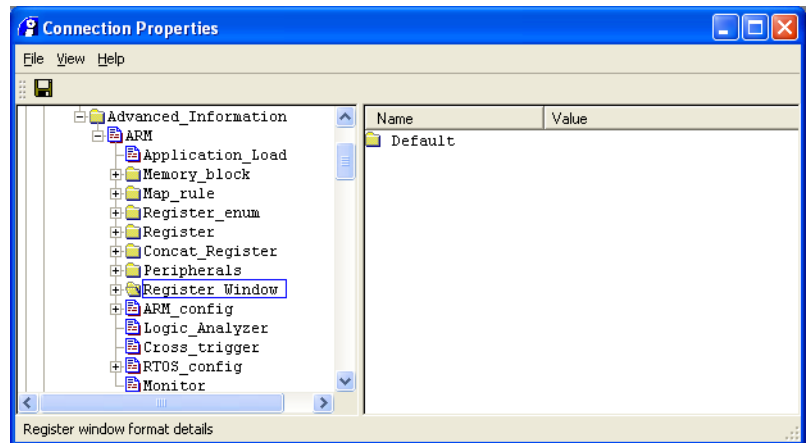

Figure 4-24 Register\_Window group
2. Locate the Register\_Window group in the Advanced\_Information block group. Figure 4-24 shows an example: